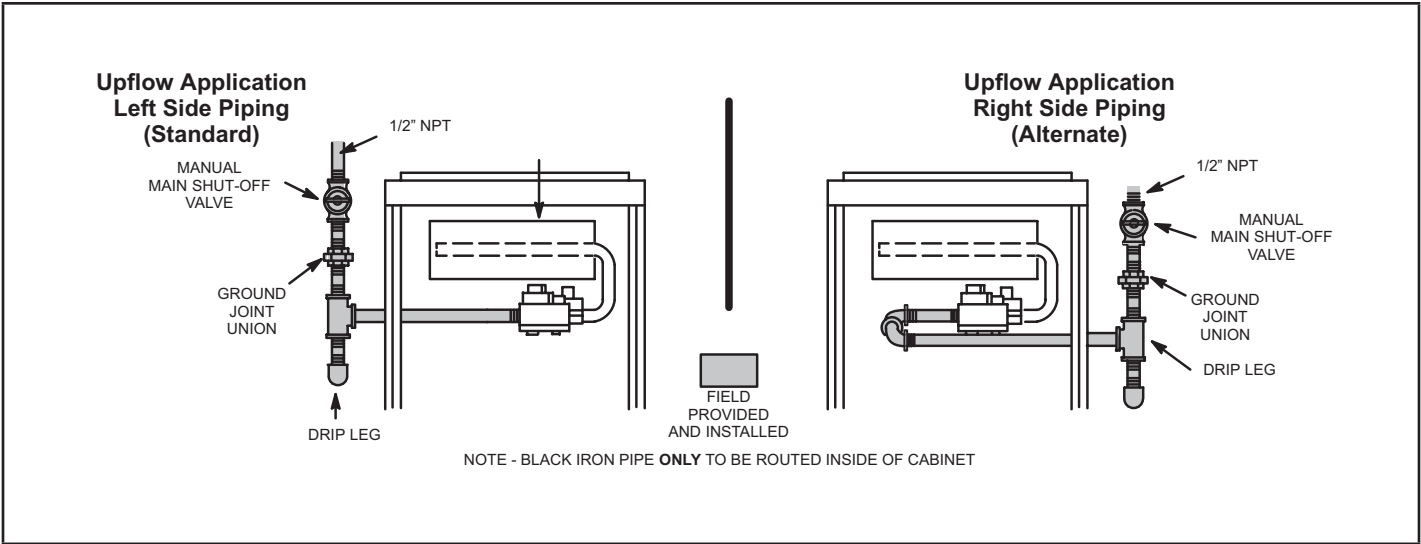
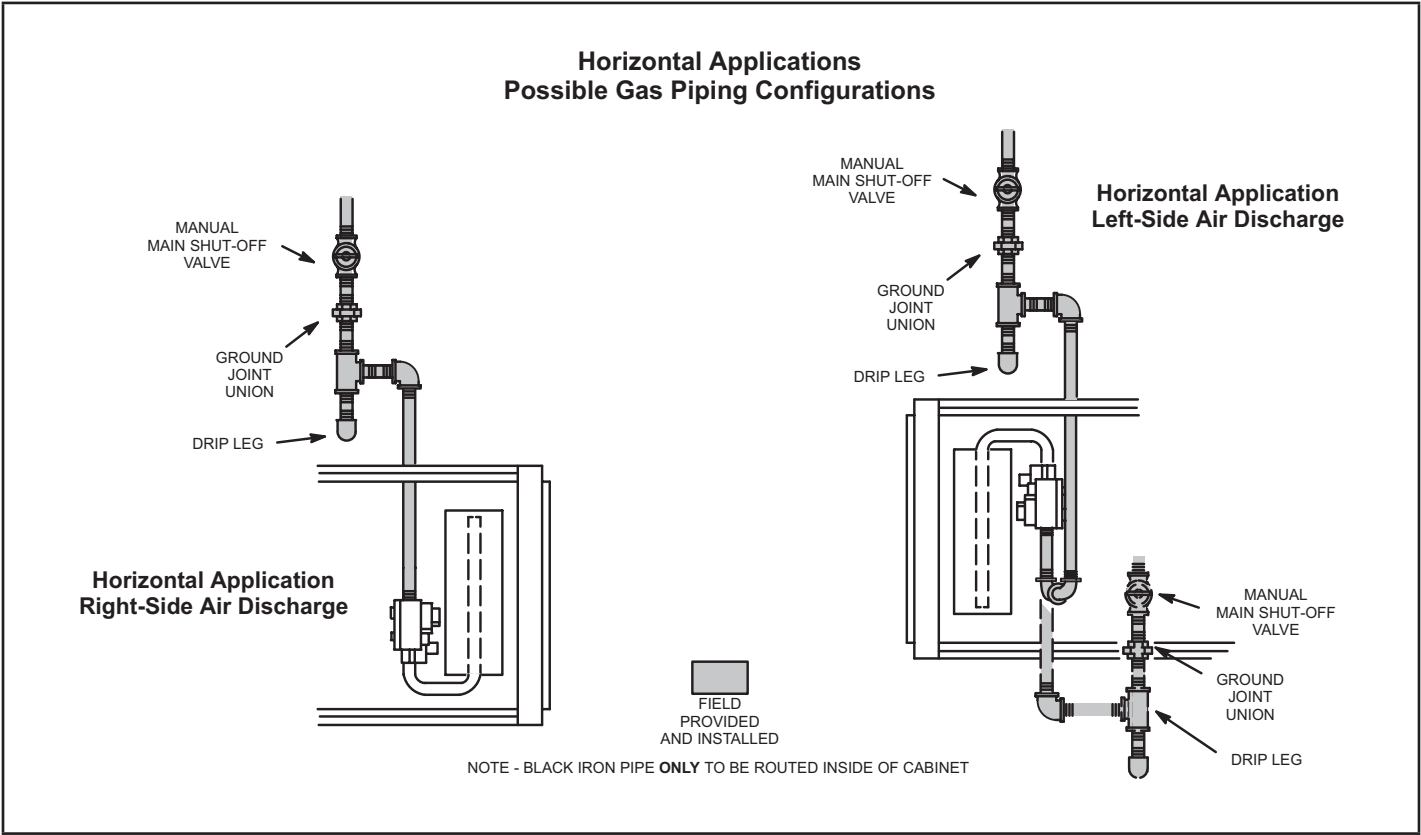

FIGURE 49
FIGURE 50
- 1 - Gas piping may be routed into the unit through either the left- or right-hand side in upflow applications, and either the top or bottom in horizontal applications. Supply piping enters into the gas valve from the side of the valve as shown in FIGURE 49 and FIGURE 50. Connect the gas supply piping into the gas valve. The maximum torque is 800 in lbs and minimum torque is 350 in lbs when attaching the gas piping to the gas valve.
- 3 - Gas piping must not run in or through air ducts, clothes chutes, chimneys or gas vents, dumb waiters or elevator shafts. Center gas line through piping hole. Gas line should not touch side of unit. See FIGURE 49 and FIGURE 50.